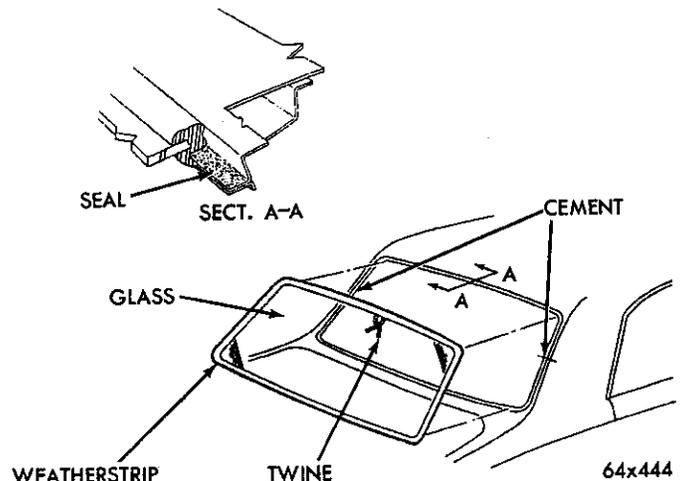

Fig. 63—Rear Window Installation
- (2) Flow a continuous ribbon of cement on each lip and around the entire length of the glass groove of the weather strip (Fig. 63).
- (3) Install the weather strip on the rear window.
- (4) Install twine into the groove of the weatherstrip that seats on the rear window fence.
- (5) The ends of the twine should be at the top center section of the weather strip (Fig. 63).
- (6) With an assistant, position the rear window glass and weather strip in the rear window opening.
- (7) With the assistant holding the glass in position, enter the car and pull the twine slowly to seat the weather strip on the fence.
- (8) With the palm of the hand tap the rear window glass, on the outside, to make certain it is fully seated.
- (9) Seal the weather strip to fence areas, on the outside only. Remove all excess sealer.